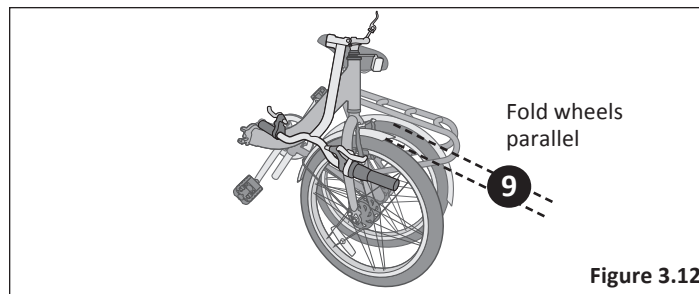

Figure 3.12
- 9 Open the frame latch and fold the frame in half by moving the front half of the frame back until the two wheels are parallel. **Figure 3.12**